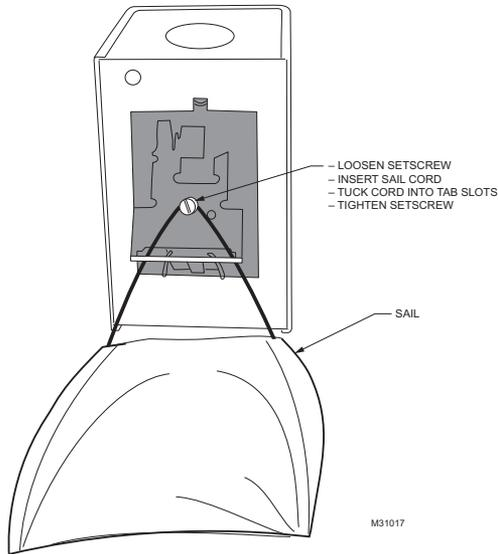

Fig. 12. Attaching sail to switch.
- Attach the sail to the switch as shown in Fig 12.